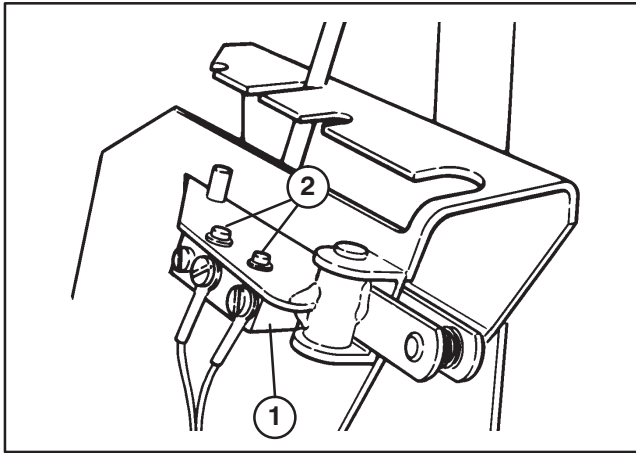

Figure 17
2. Check traction switch (Fig. 17) with a continuity tester or ohm meter and replace if damaged. The switch must be closed when the gear shift lever is in a gear. The switch must open when shifting between Neutral, First, and Second gears.